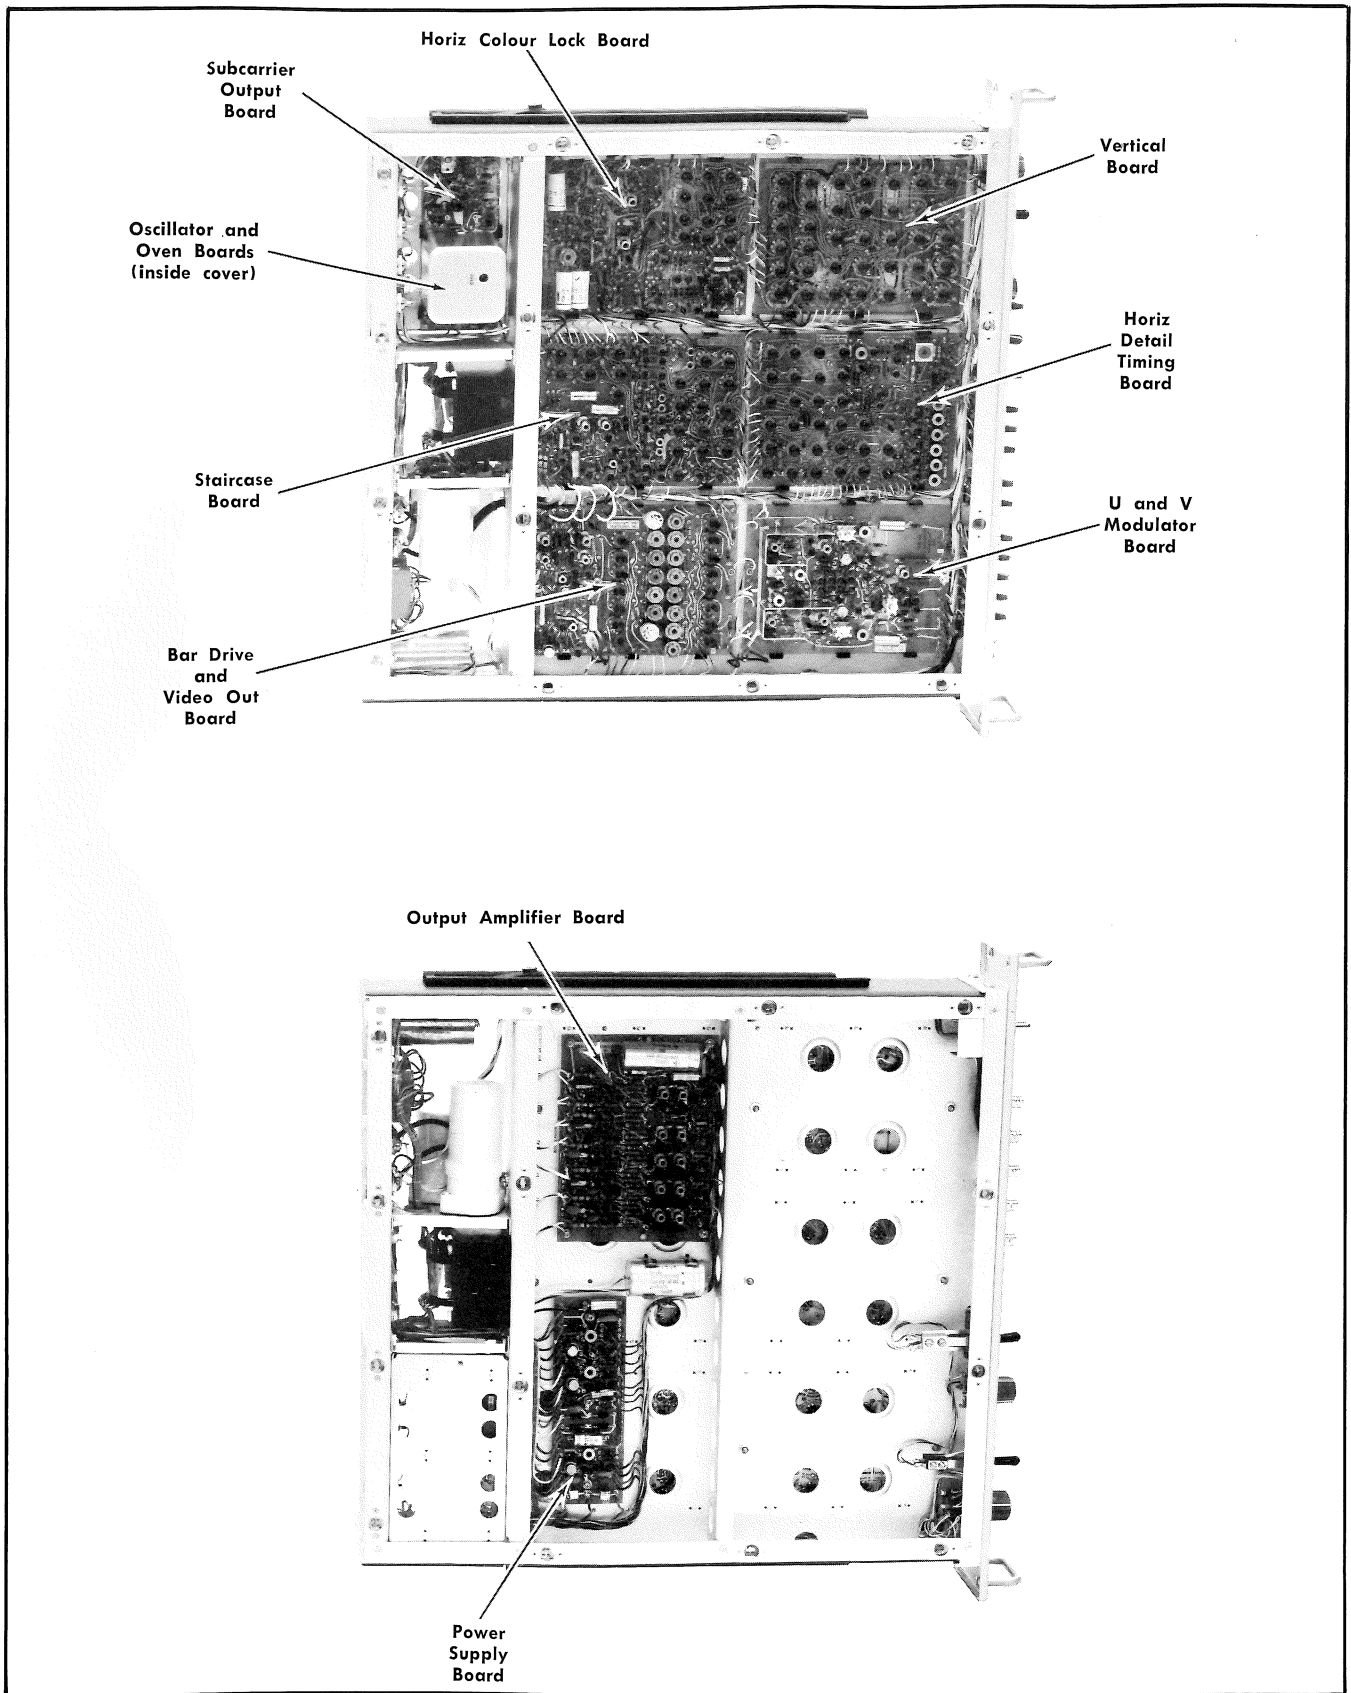
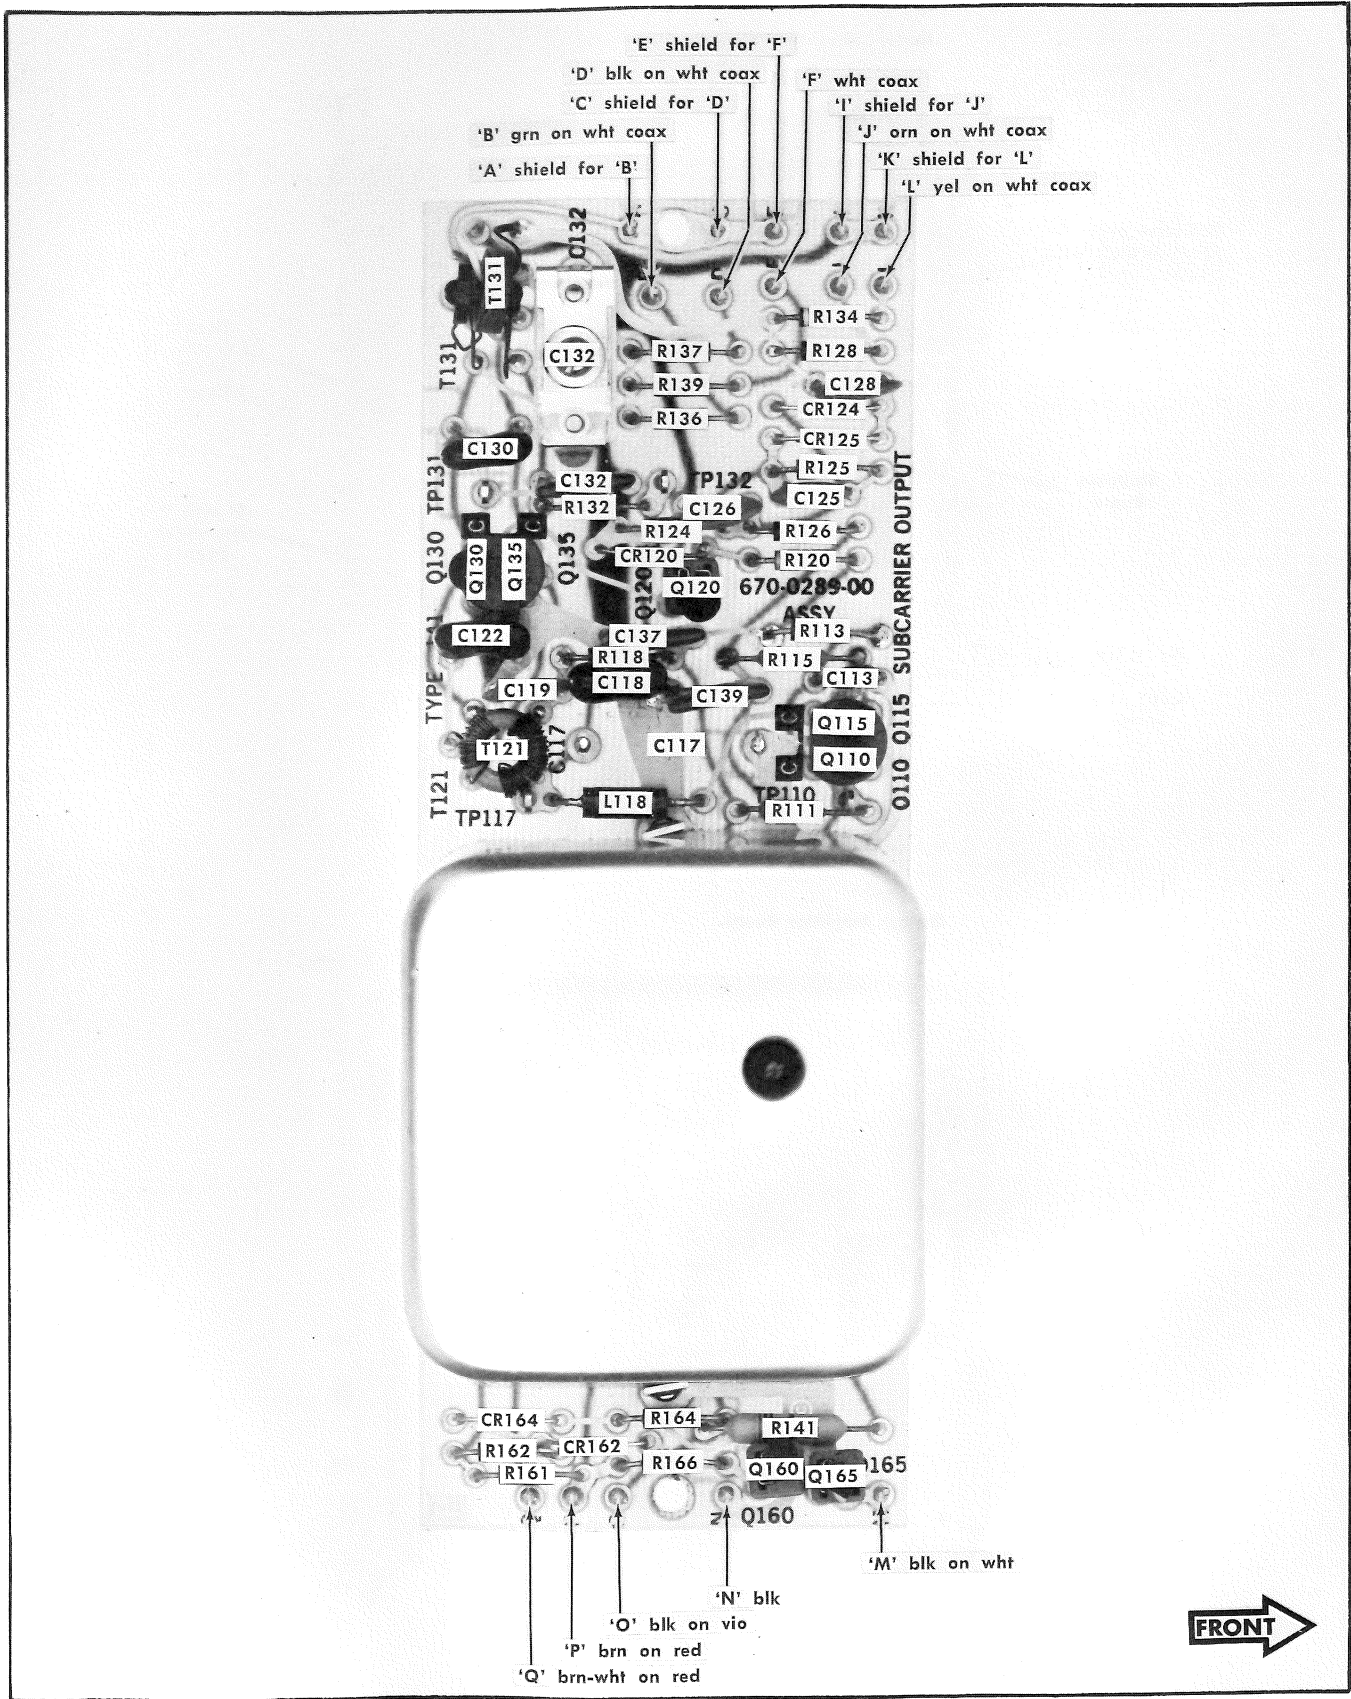

Fig. 4-5. Location of circuit boards in the Type R141A.
Fig. 4-6. Subcarrier Output board; component identification and wire colour code.
Circuit Boards. Fig. 4-5 shows the location of each circuit board within the instrument. Fig. 4-6 through 4-15 show a full view of each circuit board. Each electrical component on the boards is identified by its circuit number, and all wire colour codes are shown. These pictures, used along with the diagrams, aid in locating the components on the circuit boards.
6. Check Circuit Board Interconnections. After the trouble has been isolated to a particular area or circuit, check the pin connectors on the circuit board for correct connection. Figs. 4-6 through 4-15 show the correct connections for each board.